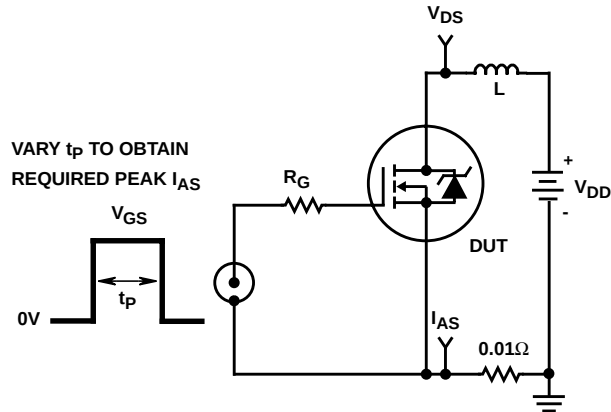

FIGURE 15. UNCLAMPED ENERGY TEST CIRCUIT
- $V_{DD} = 50\text{V}$, starting $T_J = 25^\circ\text{C}$, $L = 4.5\text{mH}$, $R_G = 25\Omega$, peak $I_{AS} = 14\text{A}$. See Figures 15, 16.